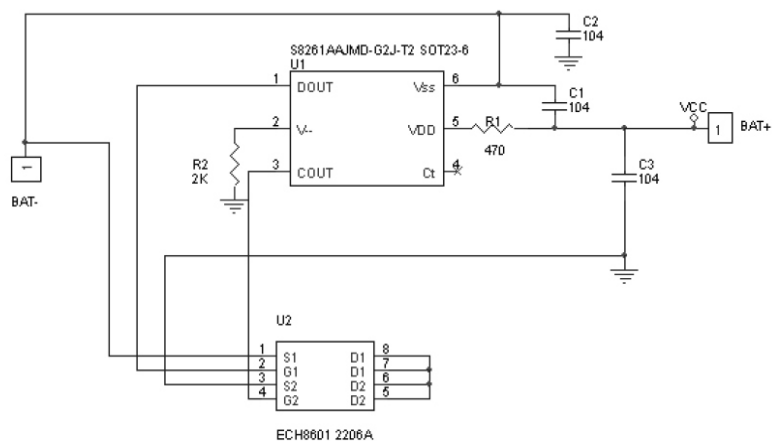

Figure 3.2.8.1 Battery protection circuit
1. Battery protection board is installed on lithium battery and used to protect lithium battery from being damaged by short circuit, over discharge and over charge. Lithium battery and battery protection board are all lithium battery core components by us. Circuit schematic diagram of battery protection board is shown in the figure 3.2.8.1: